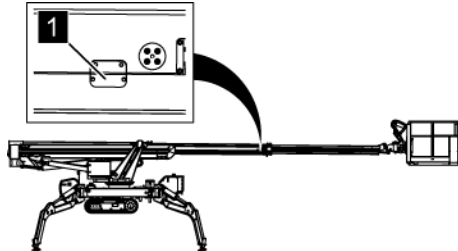

Fig. 228: Upper boom maintenance covers
9. ➤ Remove the maintenance covers (Fig. 228/1) from the maintenance opening on both sides of the upper boom.
11. ➤ Only telescope in the upper boom section enough so that the maintenance covers (Fig. 228/1) can remain fitted.
12. ➤ Fit the maintenance covers (Fig. 228/1) on both sides of the upper boom.